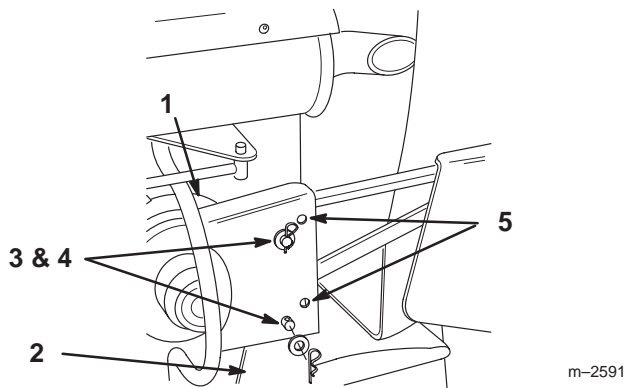

Figure 17
24. Install belt cover to belt guard bracket and secure with washers and hairpin cotters (Fig. 17),